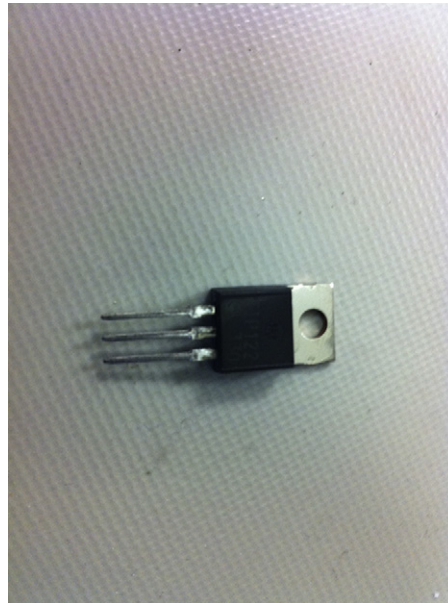

FIGURE 3.8
*FETs, or field effect transistors, were developed more recently than transistors and diodes (see Figure 3.8). Why come up with something new? Simple: FETs have some properties that make them very desirable components. The primary reason they are so slick is that the output of a FET is basically a resistance that varies depending on the voltage at the input. The outputs on an FET are called the *drain* and *source*, whereas the input is known as the *gate*.*